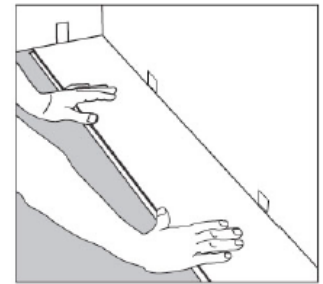

Figure 1
2. Starting from the LEFT with the tongue facing the wall, carefully place the first board in place. Use spacers along the wall allowing required expansion gap (10 mm). (Figure 1)